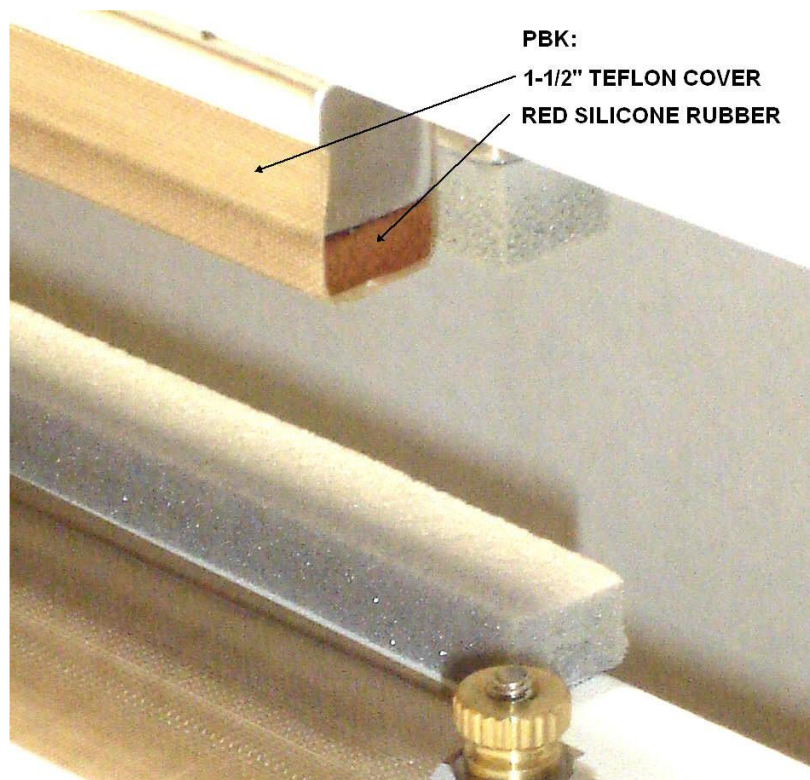

Figure 14
4. Remove backing from the new 1½" Teflon cover. Center Teflon on top of the red rubber, press the Teflon on the red rubber smoothing out to each edge, and then fold over each side. See Figure 14.